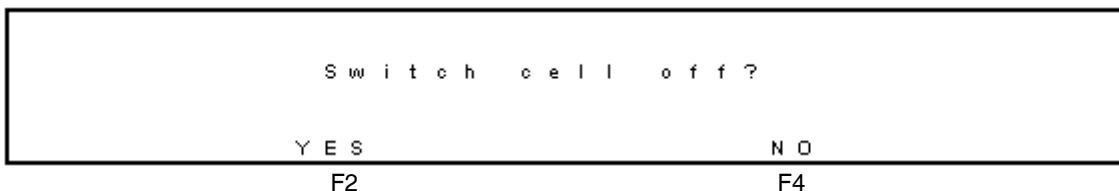

Figure 3-24 Switch Cell Off Screen
3. Select **F2 CELL=ON**. The Switch Cell Off screen appears (Figure 3-24).